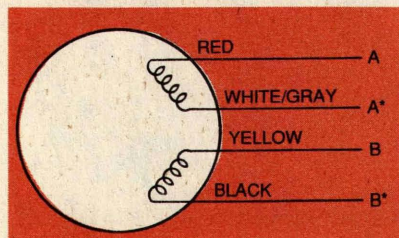

Fig. 2. A two-phase, four-wire stepper motor consists of a permanent-magnet rotor and two field coils.
**The Stepper and Drive Circuit.** The stepper motor is a two-phase, four-wire type. It consists of a permanent-magnet rotor and two field coils, as shown in Fig. 2. Table 1 lists the specifications for the selected motor. When the field coils are switched in the proper sequence, they attract the rotor, pull it to a precise position, and hold it there. By energizing coils A and B in the sequence shown in Table 2, the rotor will move precisely 7.5°, which amounts to 48 discrete steps through its rotation.